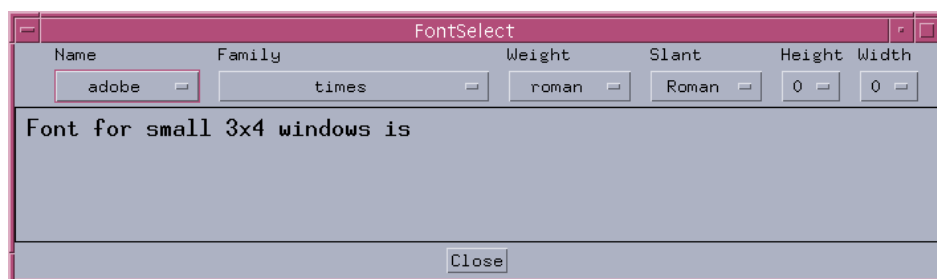

Figure 6. FontSelect Window
2. Click on the **Select Fonts** button to open the FontSelect window, shown in **Figure 6**.